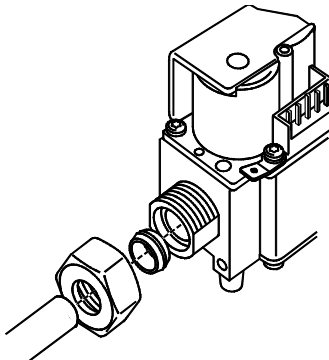

Fig. 6. External thread connection with nut and olive
- ❸ With $3/4$ " nut and olive (see fig. 6.)